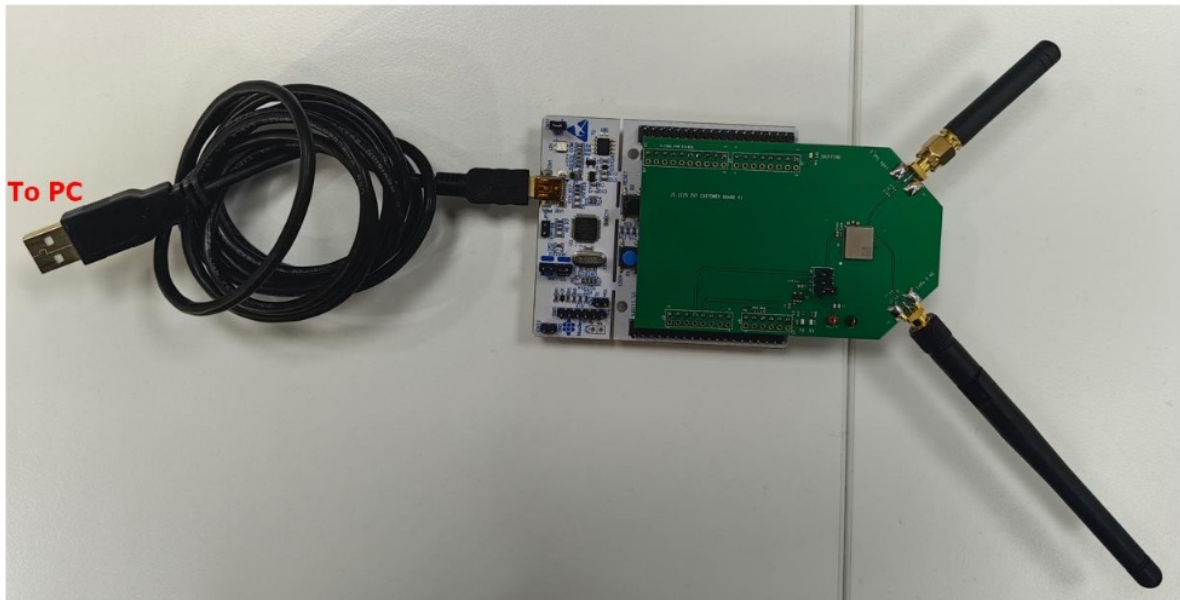

Figure 7: Assembly antennas and connect platform to PC
**STEP2:** Connect the NUCLEO-L476RG to PC by Mini USB interface cable and assembly the antennas on the EVB as showed in figure 7.